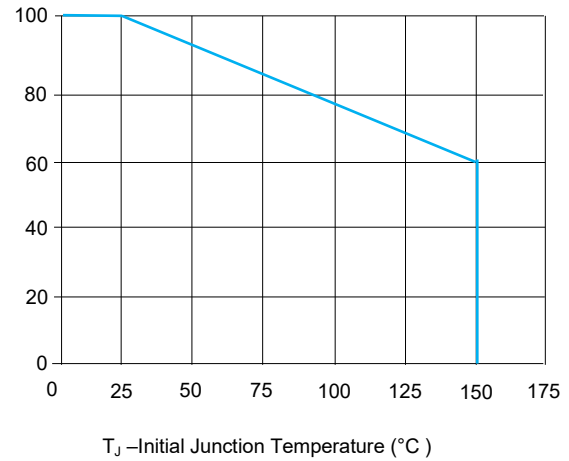

FIGURE 2 Peak Pulse Power Derating Curve
1. Non-repetitive current pulse, per Fig. 3 and derated above $T_J(\text{initial})=25\text{ }^\circ\text{C}$ per Fig. 2.